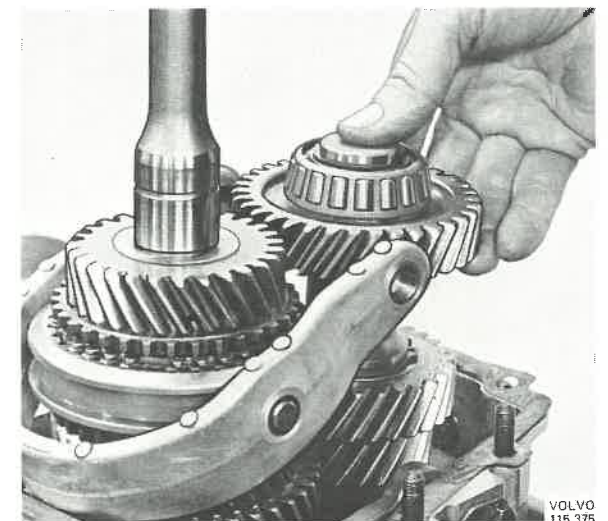

Fig. 43-114. Checking countershaft
14. Place a new gasket on the gearbox housing. Check that the countershaft is fitted properly, Fig. 43-114. Grease the lock pin for 3rd-4th.